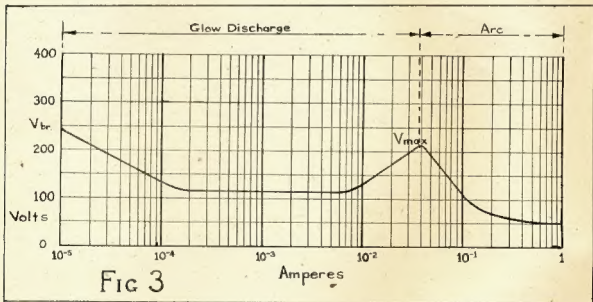

FIG 3
This stage is called glow discharge and in the region where its characteristic is horizontal is the condition of operation of voltage regulator tubes, which persists until the electrode is completely covered with glow. See Fig. 3. (2).
The use of special test anode enables this process to be observed and it takes place precisely according to the curve of Fig. 3. (3). In practice it is not possible to make a practically uniform anode in which there will not be local hot spots, nor to keep it perfectly free of material of low work function. The best results are obtained with anodes of graphite or metal anodes with carbon coating.